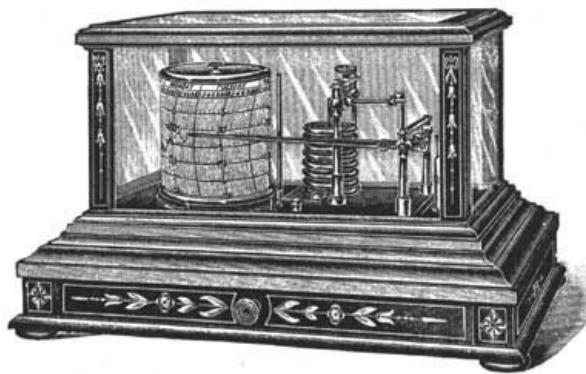

FIG. 48.—Barograph.
**81. Use of the Barometer.** Changes in air pressure are very closely connected with changes in the weather. The barometer does not directly foretell the weather, but a low or falling pressure, accompanied by a simultaneous fall of the mercury, usually precedes foul weather, while a rising pressure, accompanied by a simultaneous rise in the mercury, usually precedes fair weather. The barometer is not an infallible prophet, but it is of great assistance in predicting the general trend of the weather. There are certain changes in the barometer which follow no known laws, and which allow of no safe predictions, but on the other hand, general future conditions for a few days ahead can be fairly accurately determined. Figure 48 shows a barograph or self-registering barometer which automatically registers air pressure.